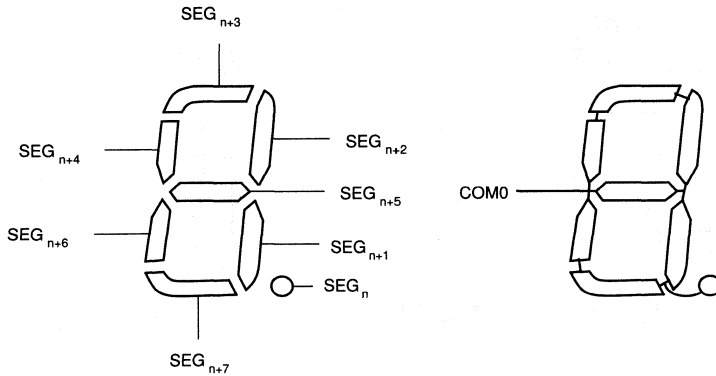
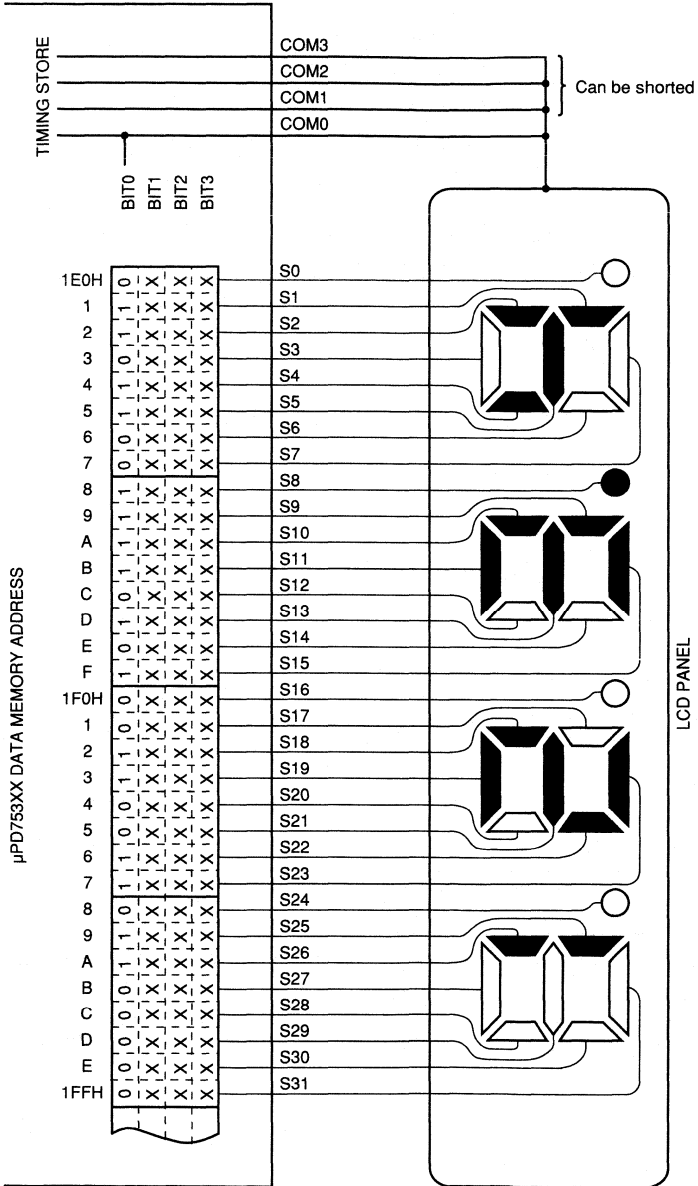

Fig. 5.7-13 Static Mode LCD Display Pattern and Electrode Connection
Fig. 5.7-14 Static LCD panel Connection Example
Fig. 5.7-14 shows connection of a static 4-digit LCD panel having the display pattern shown in Fig. 5.7-13, the μPD753XX segment signals (S0-S31), and the common signal (COM0). In this example, 123.4 is displayed. The contents of the display data memory (addresses 1E0H-1FFH) correspond to the display pattern.
Here, 3. (3) at the second digit position is taken as an example. It is necessary to output selection and no-selection voltages as shown in Fig. 5.7-12 to the S8-S15 pins at the COM0 common signal timing according to the display pattern shown in Fig. 5.7-13.